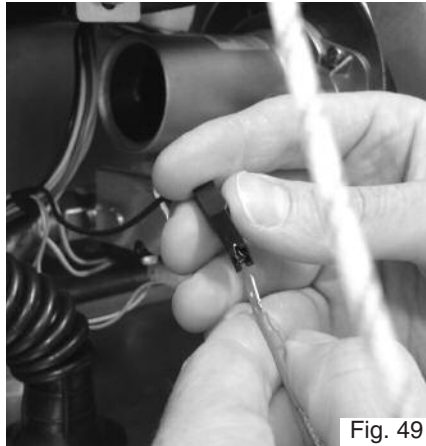

Fig. 49
4. Disconnect the detection electrode cable (Fig. 49);